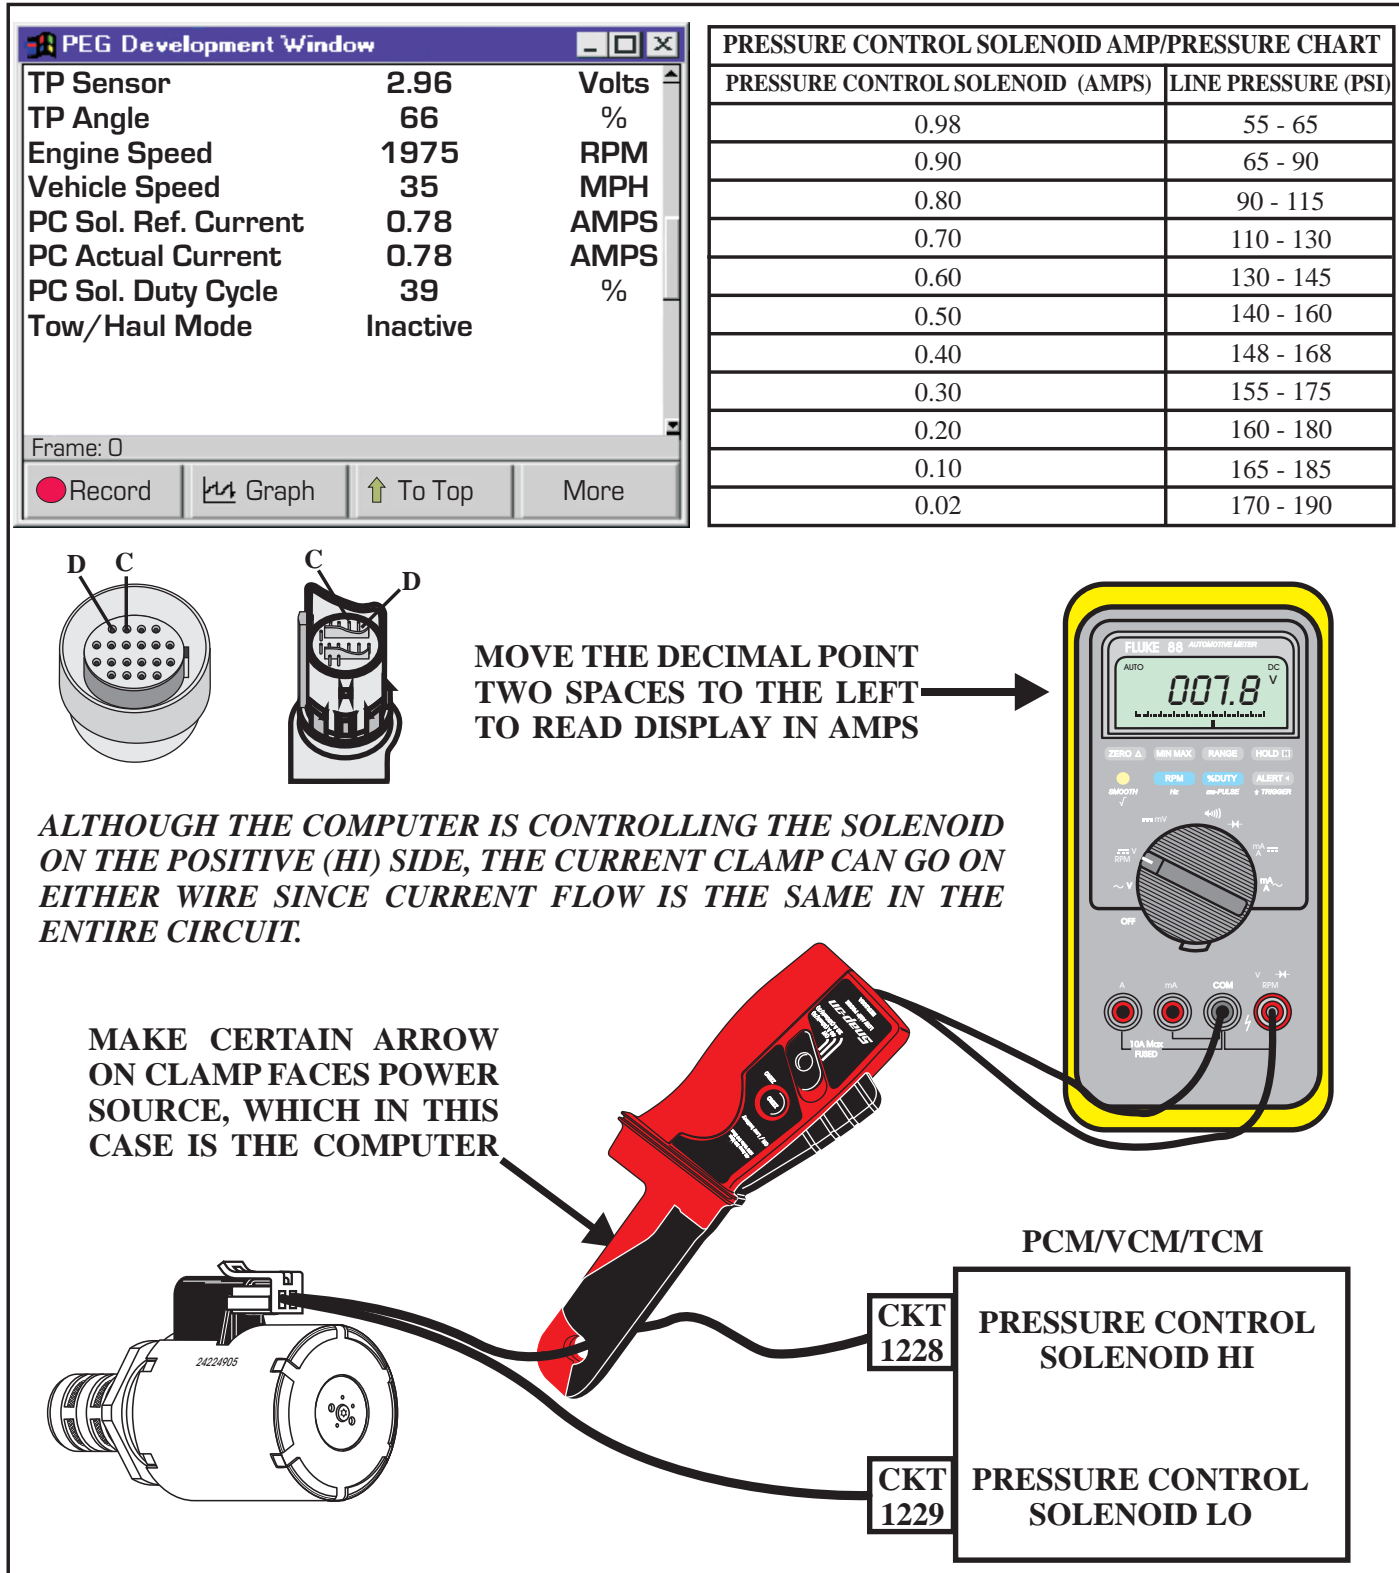

Figure 112
- A short or an open in the PCS High (1228 Red/Black) or Low (1229 Lt. Blue/White) circuits, (Refer to Figure 112).
- There are times when the data displayed on the scan tool is not what is actually taking place on the circuit. It is a good idea to compare what amperage you see on the scan tool to the amperage shown on a DVOM, preferably with the use of a Low Current Probe as shown in Figure 112. **Remember to move the decimal point two places to the left so the numbers represent amps instead of volts.**
- Current should be the same throughout the circuit so it really doesn’t matter where you put the low current clamp, just remember to install the clamp with the arrow on it towards the power source, which in this case would be the computer as seen in Figure 112.
- The vehicle computer controls the PCS on the PCS HI or positive side, and monitors the feedback on the PCS LO or negative side of the circuit. Do not check the PCS circuits using volts, it is inaccurate. An easier method may be to use your DVOM set to Duty Cycle (%), See Figure 112.
- Keep in mind that a scan tool or DVOM not only displays what is wrong, it also displays what is right. If the PCS control is correct but a pressure gauge indicates pressure is incorrect, this would indicate a mechanical problem inside the transmission. Use the chart in Figure 112 to compare PCS amps to the pressure that should exist at that amp level.